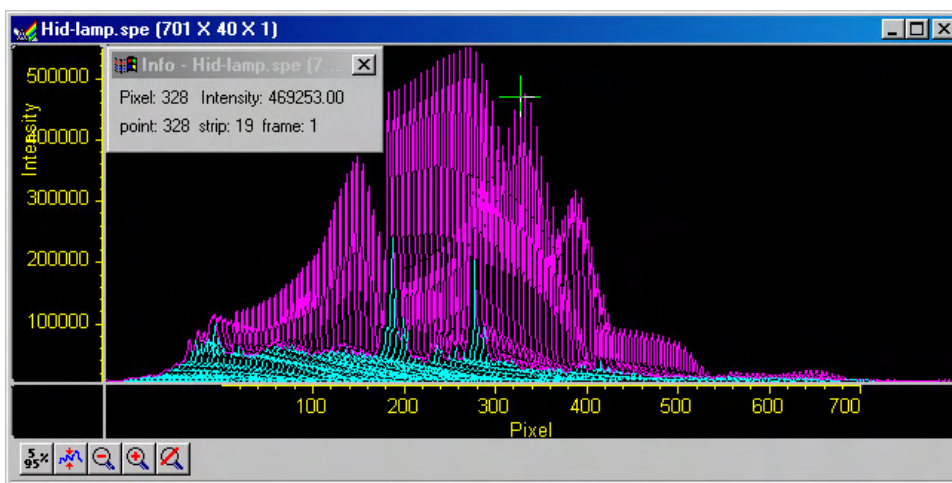

Figure 90. 3D Plot with Hidden Surfaces
2. Click on **OK**. The data should be redisplayed as shown in Figure 90, with the hidden surface clearly visible.